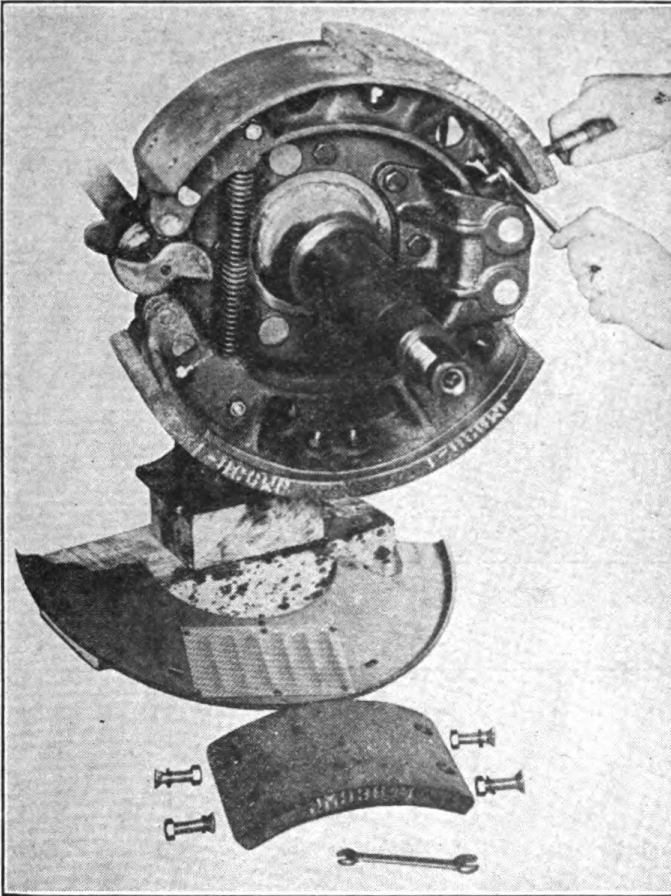

FIGURE 24. REPLACEMENT OF LINING.
5. REPLACEMENT OF LINING (Fig. 24).—a. Remove the wheel and hub assemblies in one unit.